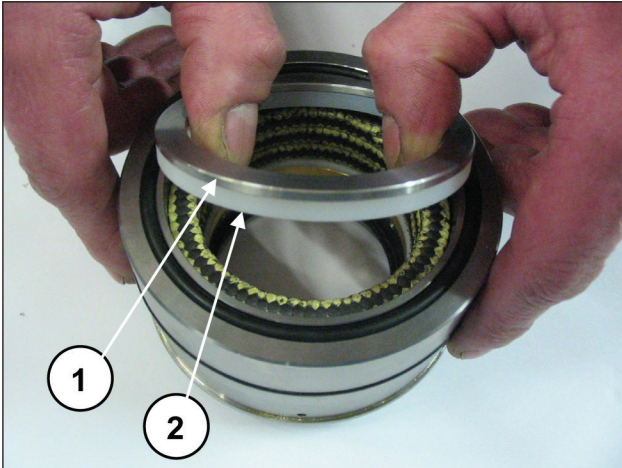
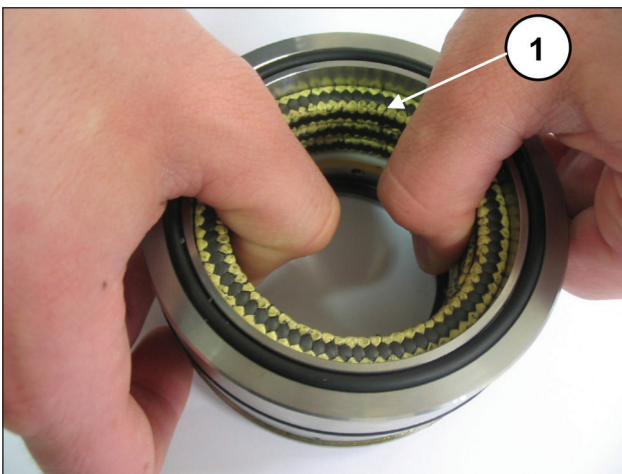

Fig. 166
Fig. 167
Separate the seal support from the liner, remove the spring ring and scraper ring (pos. ①②, Fig. 166) to access the pressure seals (pos. ①, Fig. 167).